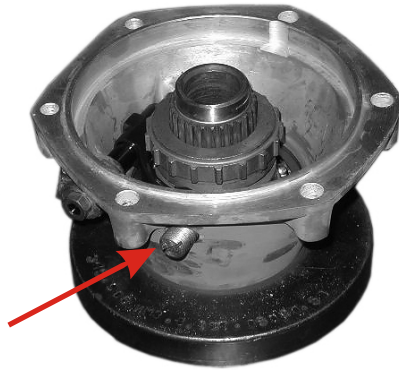

Fig. 81.
- Apply Locktite onto the thread of the stop, screw the stop into the final drive cover thus providing the reliable fastening of the shift fork to the stop ball (Fig.81).